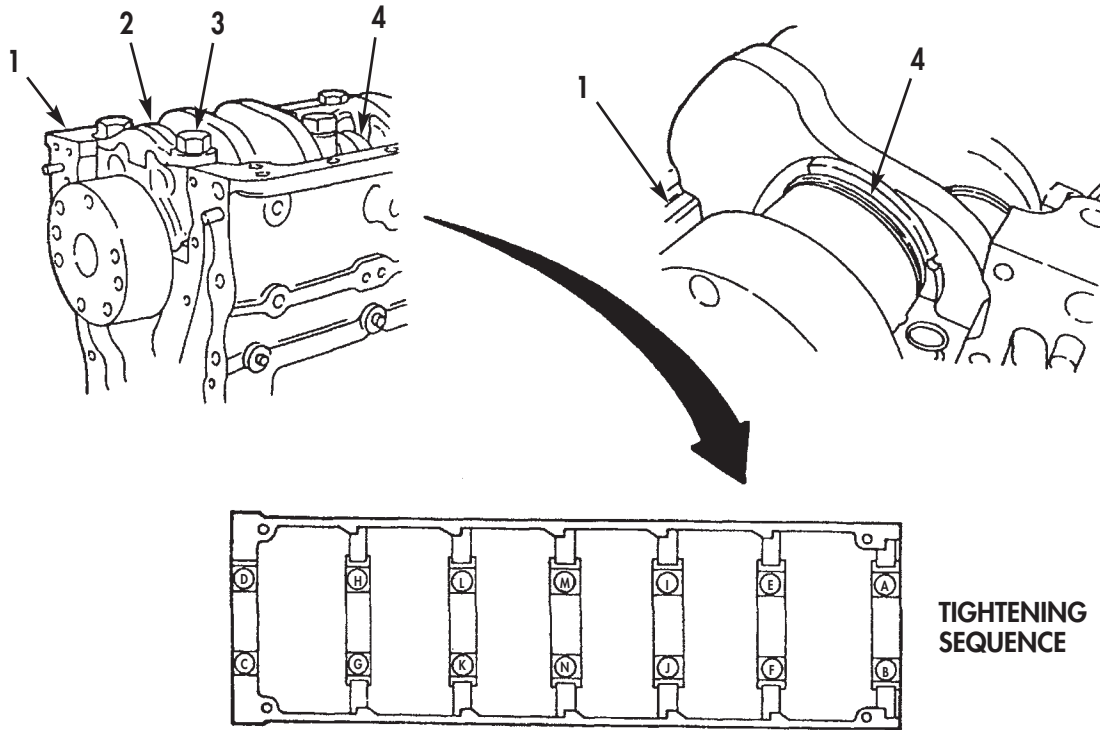

Figure 2. Main Bearings Installation.
10. Using rubber mallet, strike bearing caps (2) into position on cylinder block (1).
11. Tighten screws (3) 250–260 lb-ft (339–353 N•m) in sequence as shown in figure 2.
12. Loosen fourteen screws (3) three to five threads, or a minimum of three complete turns.
14. Using hands, rotate crankshaft (6). If crankshaft (6) does not rotate freely, refer to WP 0016 00, Crankshaft Cleaning and Inspection.
15. Install dial indicator on rear of cylinder block (1) with contact tip resting on crankshaft (6) flange end face.
16. Using prybar, pry crankshaft (6) toward front of cylinder block (1).
18. Pry crankshaft (6) toward rear of cylinder block (1). Total end clearance for new crankshaft (6) and new thrust bearing washers (4) should be 0.007–0.018 in. (0.178–0.457 mm). Maximum clearance for worn parts is 0.022 in. (0.559 mm).
- a. Loosen fourteen screws (3) one turn.
- b. Pry crankshaft (6) toward front and rear of cylinder block (1).